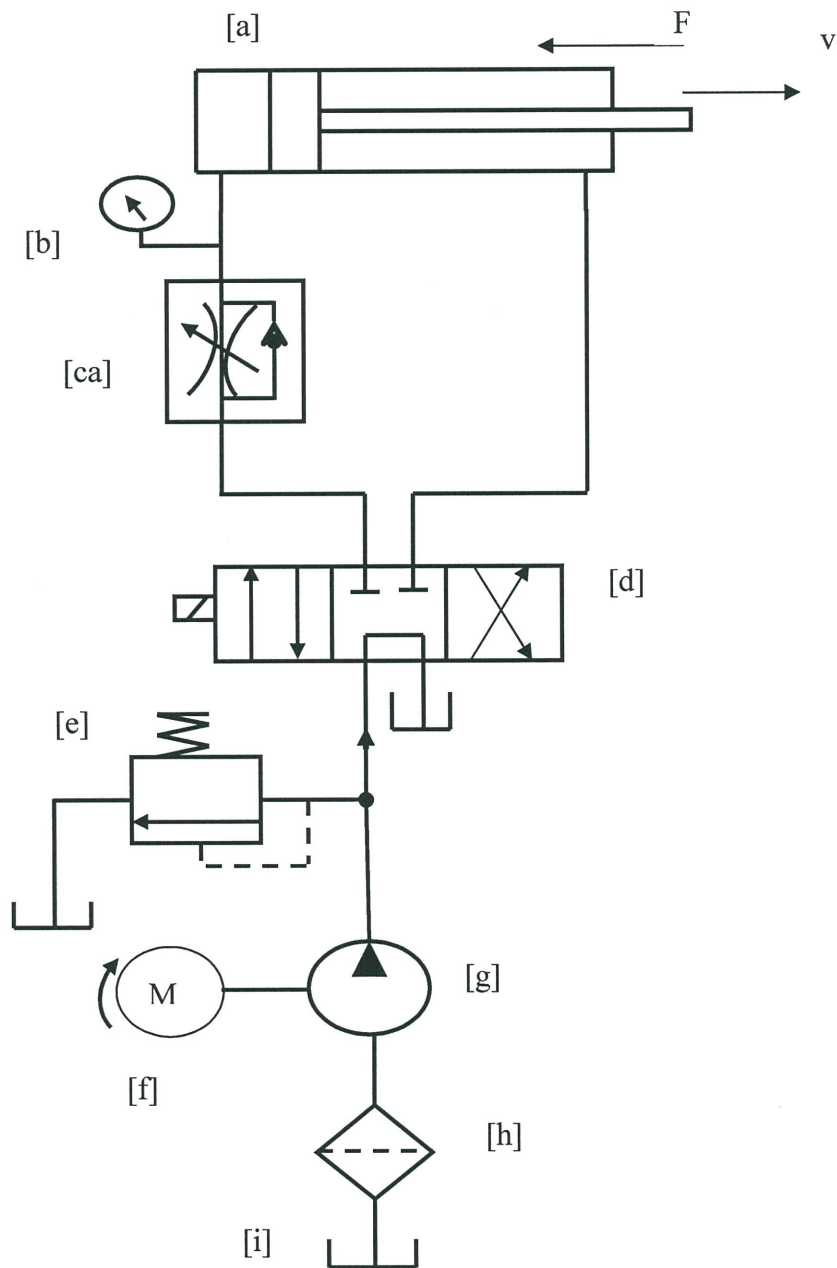

FIGURE Q2 (b)
- Q1** (a) Explain **THREE (3)** categories in terms of the human participation in the processes performed by the manufacturing system. (6 marks)
- (b) **FIGURE Q2 (b)** shows the basic circuit hydraulic system of a machine. List the components according to a given letter. Explain the operation of the machine work. (9 marks)